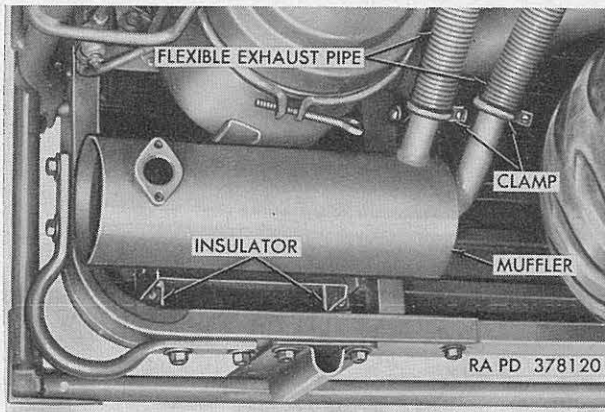
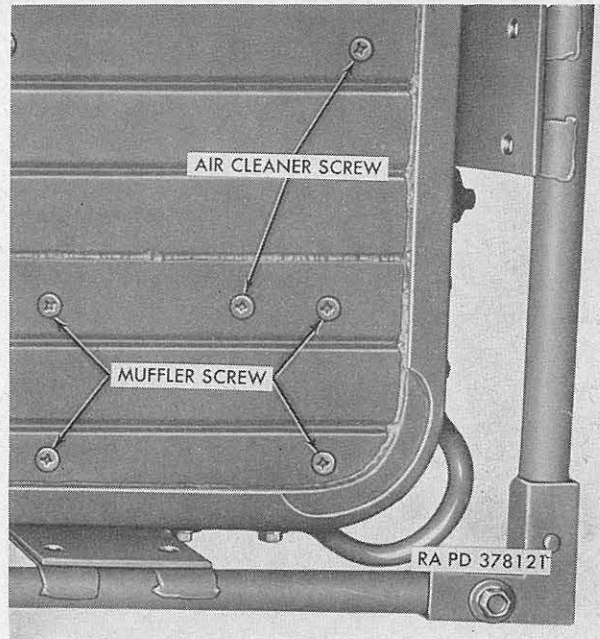

Figure 49. Disconnect points for muffler.
Figure 50. Screws for air cleaner and muffler.
- (3) Remove two hex nuts, lockwashers, and flat-head screws (fig. 50) securing arms on air cleaner to under side of platform, and remove air cleaner and two shims between arms and platform.
- (1) Place two  $\frac{5}{16}$ -24NF x  $1\frac{1}{4}$  flathead screws (fig. 50) in holes, near left
*a. Removal.* Loosen screws in two clamps (fig. 49) connecting flexible exhaust pipes to muffler, and slide clamps onto flexible exhaust pipes. Unscrew four flathead screws (fig. 50) securing muffler to under side of platform and remove muffler and two asbestos muffler insulators.
*b. Installation.* Place four  $\frac{5}{16}$ -24NF x  $1\frac{1}{4}$  flathead screws (fig. 50) in holes in top of platform. Position insulators (fig. 49) and muffler on screws against lower face of platform and secure by turning screws into  $\frac{5}{16}$ -inch tapping nuts on muffler brackets. Position clamps securing flexible exhaust pipes to muffler, and tighten clamp screws.